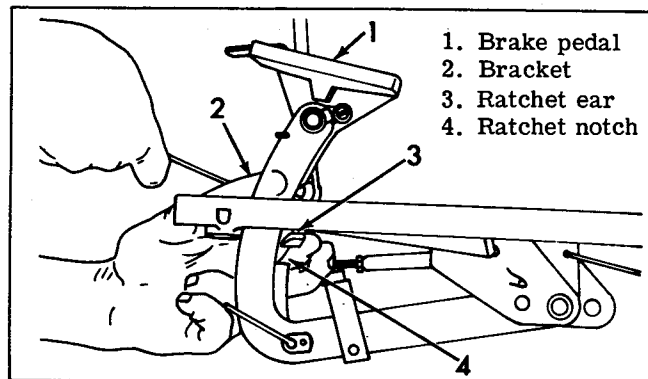

Figure 2-59. Adjusting Mechanical Brake Release
MECHANICAL BRAKE LOCKING RATCHET (Figure 2-59)
See Figure 2-59. Loosen, but do not remove pedal bracket-to-floor panel nuts with wrench. Depress brake pedal and tilt foot pedal (1) forward. Shift bracket (2) so that ear (3) engages one of notches (4). Fully tighten nuts while holding in this position.